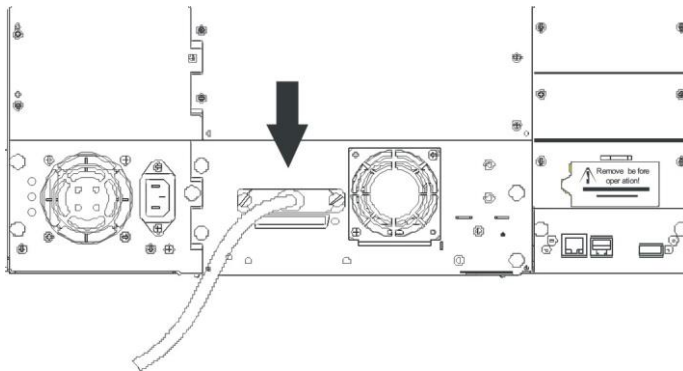

Figure 17 Attaching the SCSI cable to the drive
2. Attach one end of the SCSI cable (included in the accessory package) to one of the connectors on the back panel of the Library (see Figure 17)